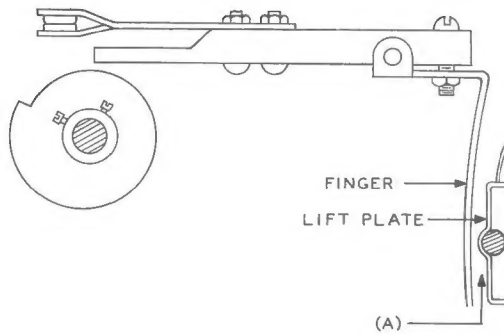

Fig. 6 – Separation Between Finger and Lift Plate
2.07 Separation Between Finger and Lift Plate: Fig. 6(A) — With the armature arm operated there shall be a clearance between the fingers associated with contacts 1 and 8 and the lift plate of